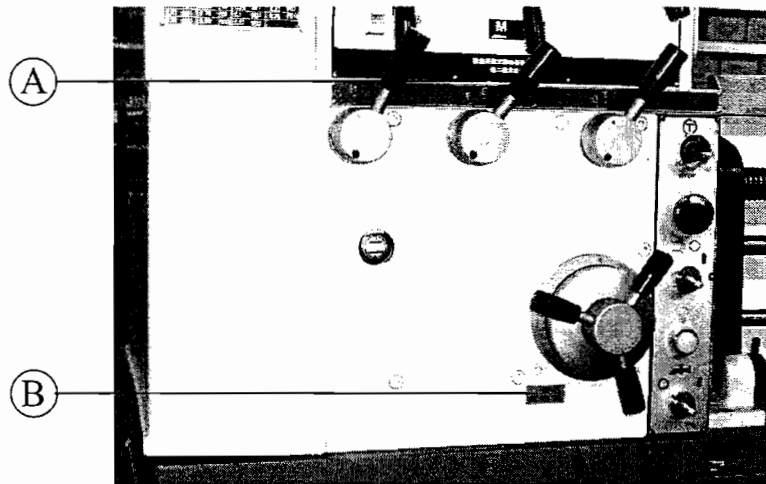

Fig. 7-3
(See Fig. 7-3Ⓐ)
2. The drain is located on the left bottom side of the gearbox near the 10 step feed selection dial as shown by arrow Ⓑ Fig. 7-3.